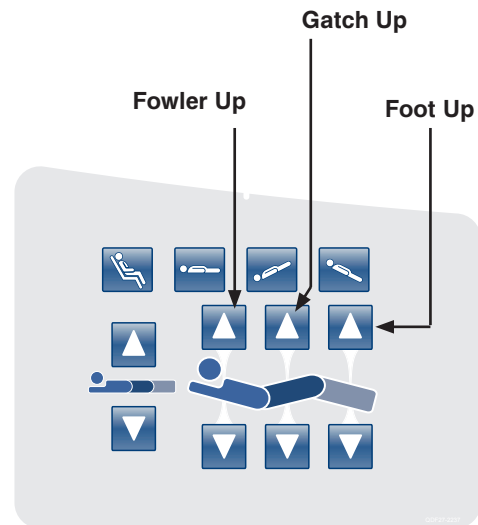

Figure 21: Head Siderail Control Panel - (Right Side Shown)
24. Press the **Fowler Up** button until the Fowler reaches the highest height, next press the **Gatch Up** button until the Gatch reaches its highest height, lastly press the **Foot Up** button until the foot section reaches its highest height (refer to Figure 21 below). The foot section should be at a flat position.